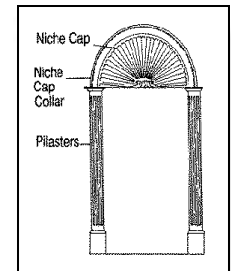

Figure 10
- Measure the distance between bottom of niche cap and shelf; trim bottom of pilasters if needed. Center the pilaster under the niche cap edge/niche cap collar; check plumb/level and screw or nail into place. (figure 10)